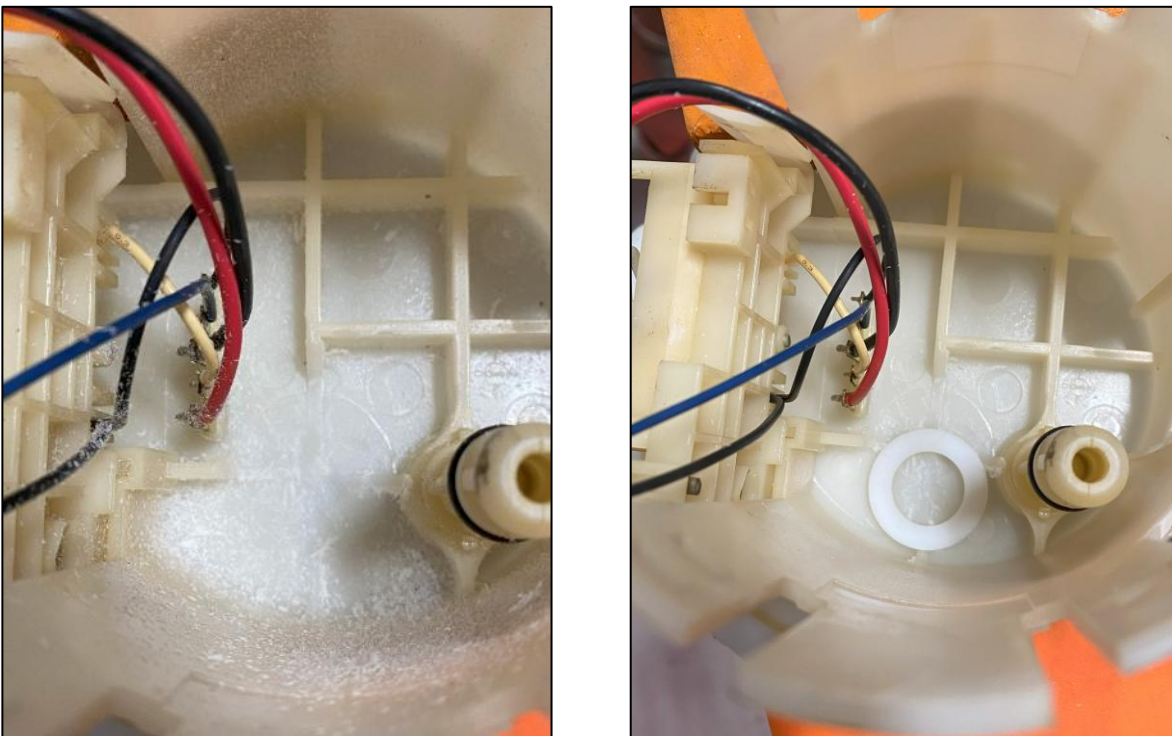

Figure 23
15. Slowly trim the webbing away with a Dremel. Do not go too far and damage any of the other sections of the Fuel Basket. Trim enough that one of the PTFE Washers can sit flat in the pocket. *Figure 23.*